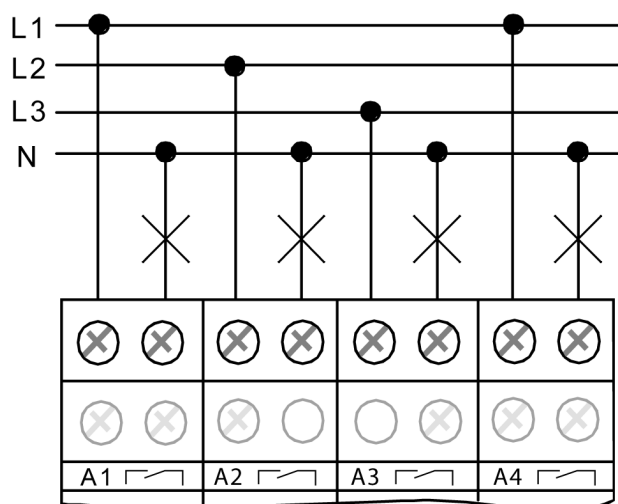

Figure 4: Electrical connection for loads in switching operation
- Connect the loads as shown in the wiring example (Figure 4)